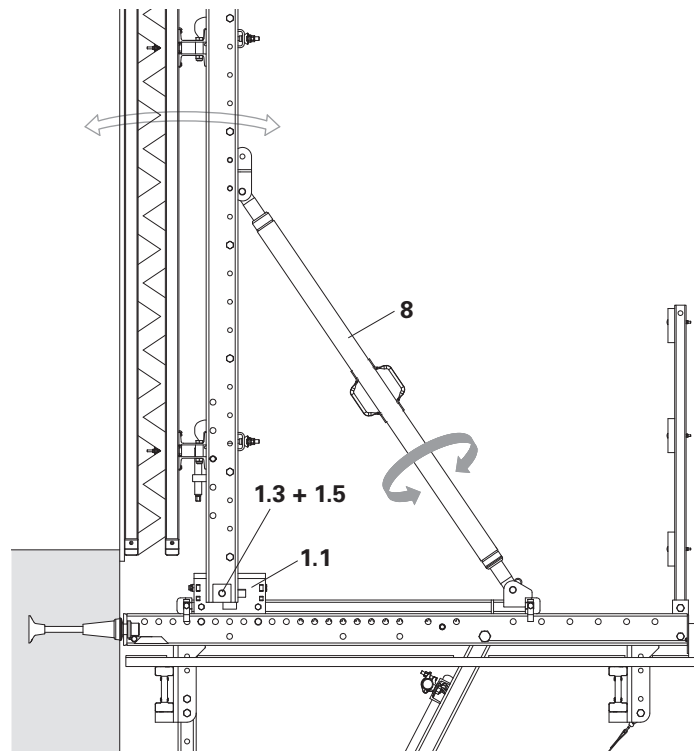

Fig. A4.01
(Fig. A4.01)
1. Turn (2x) the Heavy Duty Spindle (8). (Fig. A4.01)